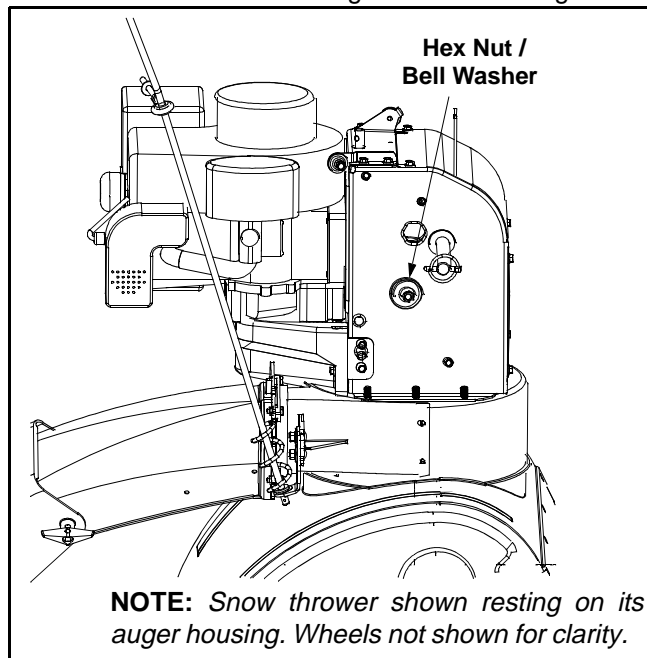

Figure 21
- Using a 7/8" wrench to hold the shaft, loosen, but do not completely remove, the hex nut and bell washer on the left end of gear shaft. See Figure 21.